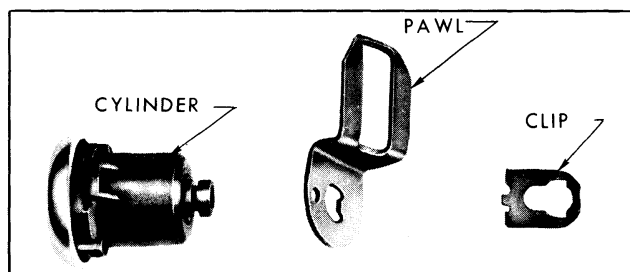

Fig. 5-72-Door Lock Cylinder Assembly
2. With a pointed tool, disengage pawl retaining clip and remove pawl (Fig. 5-72).